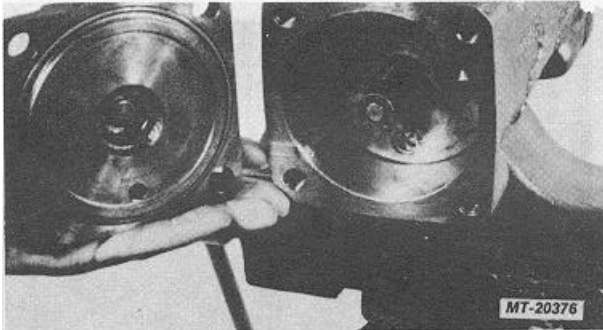

Fig. 10
12. Remove seal (25), two-piece seal (23) and back-up washer (24) from trunnion cover (26).
13. Loosen adjusting screw sealing nut (38) and adjusting screw (39) approximately two turns with a screwdriver and socket.
14. Remove four bolts (41) and remove end cover (37)(Fig. 10). Loosen nut (3) and adjusting screw (40) approximately two turns.